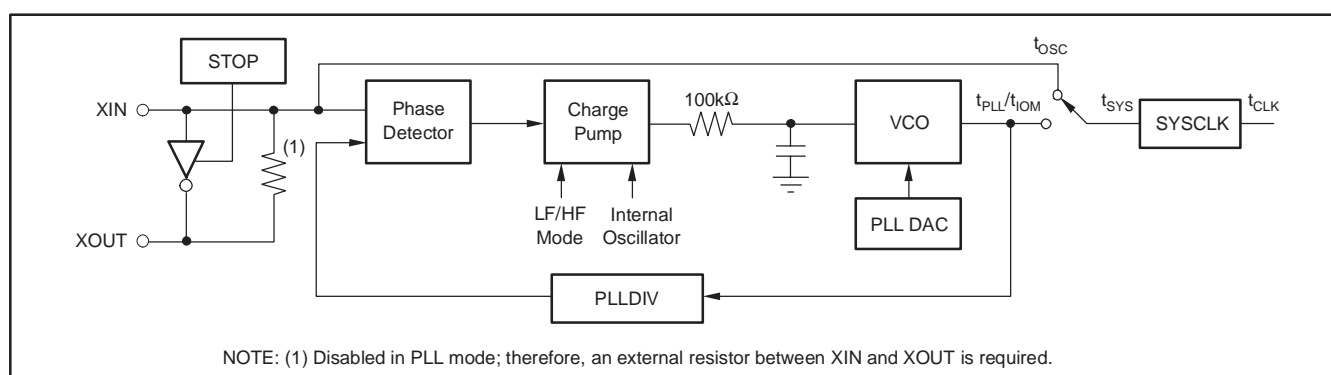

Figure 13. Clock Block Diagram
The MSC120x can operate in three separate clock modes: Internal Oscillator mode (IOM), External Clock mode (ECM), and Phase Lock Loop (PLL) mode. A block diagram is shown in Figure 13. The clock mode for the MSC120x is selected via the CLKSEL bits in HCR2. IO low-frequency (LF) mode is the default mode for the device.